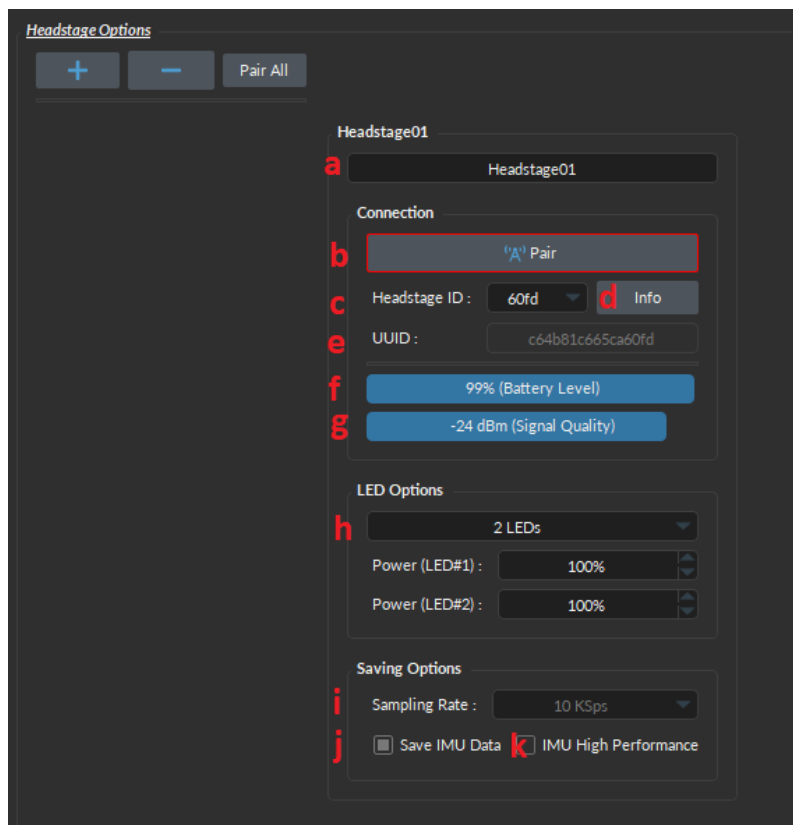

Figure 10.40: Channel(s) configuration window, Wireless Photometry, Headstage Options
- a) The **Headstage01** (Fig. 10.40, a) displays the default name assigned to the first paired headstage. The name can be changed to a custom one.
- b) The **Pair** (Fig. 10.40, b) button is used to link the headstage to the base-station.
- c) The **Headstage ID** (Fig. 10.40, c) displays an ID code assigned to each headstage to facilitate distinguishing them. This ID is actually the last 4 digits of the UUID, displayed for convenience.
- e) The **UUID (Unique Identification Device)** (Fig. 10.40, e) displays a full code assigned to each headstage.
- f) The **Battery Level** (Fig. 10.40, f) displays how full is the battery in percentages. The **Battery Level** will be displayed in 3 colors:
- g) The **Signal Quality** (Fig. 10.40, g) displays the signal strength. The ratio can decrease if the wireless connection channel is occupied by other nearby devices or if the headstage is located at a far distance from the base-station. The **Signal Quality** will be displayed in 3 colors:
- h) The **LEDs Options** (Fig. 10.40, h) displays the LEDs of the headstage separately. This allows to adjust the light output power by choosing the current percentage. Once the UV and blue LEDs are identified it will be always the same due to the hardware structure. Note that, the higher the power of LEDs, the faster the battery will drain. Also, high powers can cause saturation and bleaching issues. Therefore, it is recommended to keep the power on the lower end unless the signal is weak.
- i) The **Sampling Rate** (Fig. 10.40, i) is a preset value corresponding to the frequency of sampling of the detector.
- j) The **Save IMU Data** (Fig. 10.40, j) checkbox gives the option to save the information related to animal head direction and movement. In fact, the wireless headstage contains an Inertial Measurement Unit (IMU), which can measure both angular velocity and acceleration data of the animal head movement. This information can be useful for removing motion artifacts from signal and for those who study the head direction behavior.
- k) The **IMU High Performance** (Fig. 10.40, k) checkbox gives the option to acquire the angular velocity data. The acceleration data, though, is always recorded by default. Note that activating this option will slightly increase the battery usage.